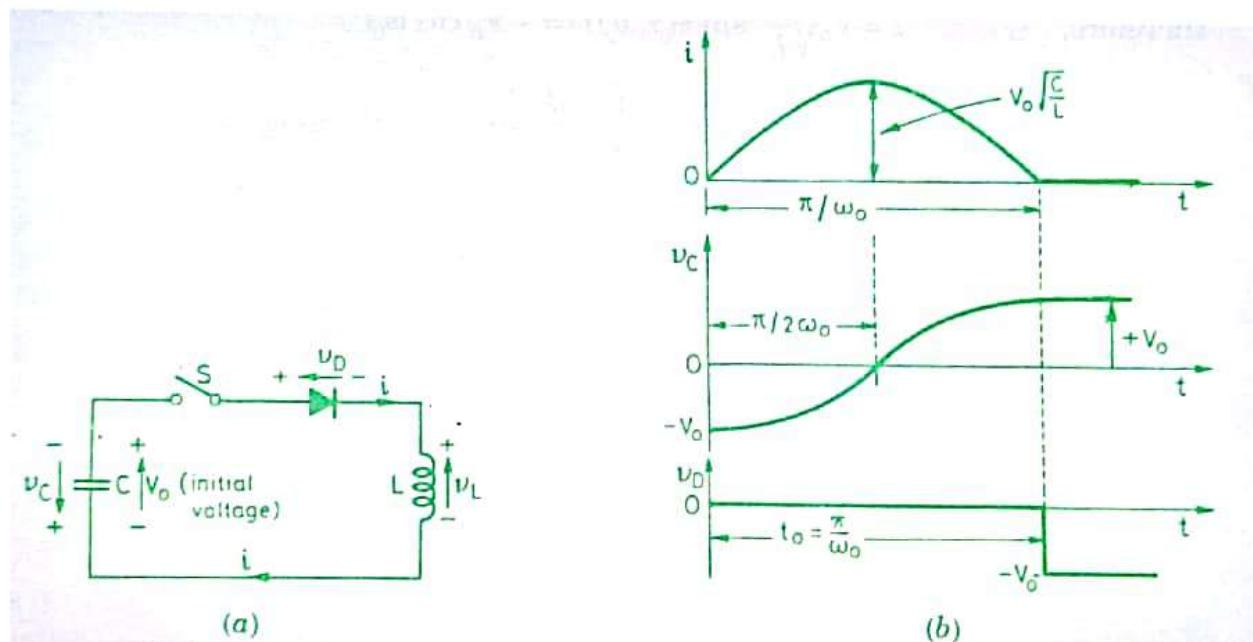

Fig. 3.7. Pertaining to Example 3.3 (a) circuit diagram and (b) waveforms.
**Example 3.3.** In the circuit shown in Fig. 3.7 (a), the capacitor has initial voltage  $V_0$  with upper plate positive. The circuit is switched at  $t = 0$ . Derive expressions for current and voltage across capacitor. Find the conduction time for diode and steady-state capacitor voltage.
**Solution.** The voltage equation for the circuit of Fig. 3.7 (a), after switch  $S$  is closed at  $t = 0$ , is
Waveforms for  $i$ ,  $v_C$  and  $v_D$  are sketched in Fig. 3.7 (b).